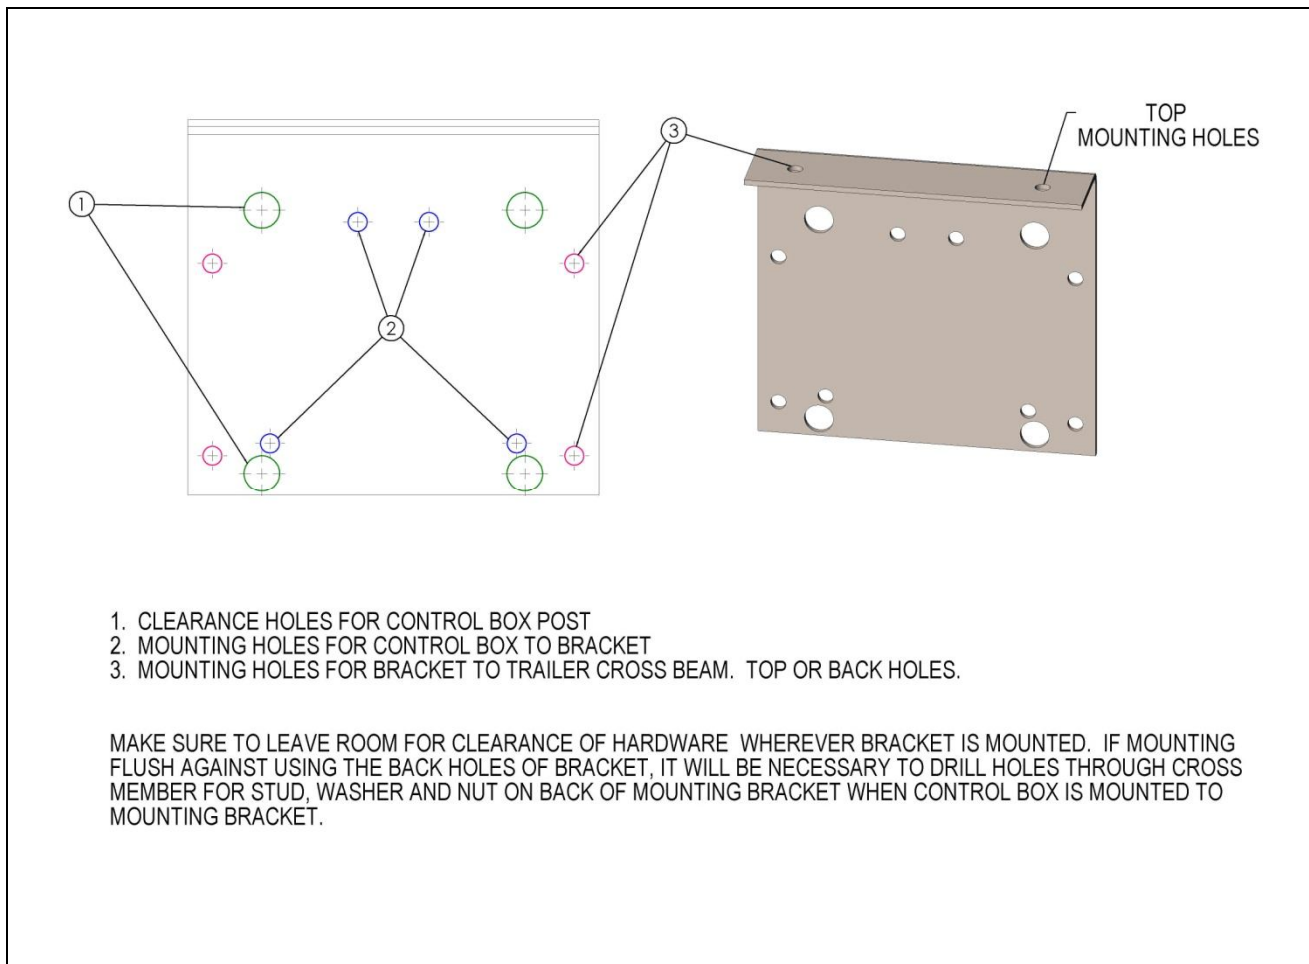

Figure 18
- Mount the control box with the door facing the backend of the trailer if possible. This will help protect it from debris from road hitting it. If this is not possible mount the control box in a location that allows access to the door, but is as free from as many hazards as possible. Do not mount control box near tires. Control box should be mounted as high under the trailer as possible to keep debris from the road from hitting it and water from getting inside box if trailer is backed into loading dock that may be holding water. See Figure 18, 19